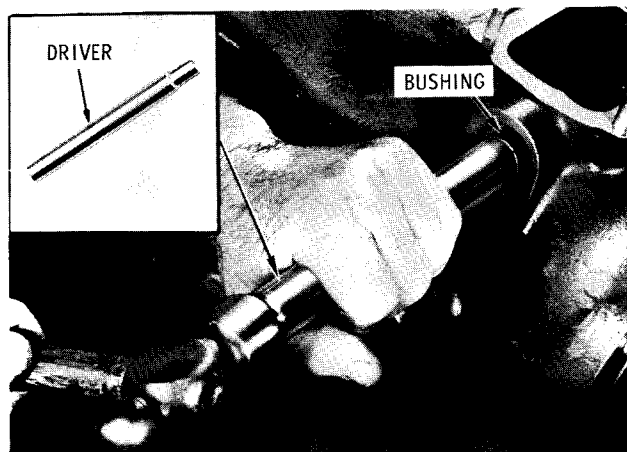

Fig. 6-17. Removing (or installing) shifter fork shaft bushings
(1) Do not remove center bearing retainer 2 (B, foldout 9 for VS2) or 3 (A, foldout 10 for VH, VS1) from the main housing, unless necessary. If necessary, remove eight bolts 5 (B, foldout 9 or A, foldout 10) and lockwashers 4 that retain the retainer in the transmission housing. Using a driver, remove the retainer from the housing. The above instructions also apply to output shaft bearing retainer 27 (A, foldout 11), if the retainer remained in the housing during the removal of the output shaft.
(2) If inspection shows shifter fork shaft bushings 4 (B, foldout 10) and shifter fork shaft oil seal 7 (B, foldout 11) need replacing, use driver 81-0159 (fig. 6-17) to remove the parts.
(3) On older model transmissions, remove any retainer studs 5 (B, foldout 10) and 6 that need replacing. Later model transmissions have self-locking bolts 7 and 17 (B, foldout 9) or 38 and 39 (A, foldout 10) to retain the bearing retainers.
(2) If shifter fork shaft bushings 4 (B, foldout 10) or oil seal 7 (B, foldout 11) were removed, install new bushings or oil seal, using a suitable driver (fig. 6-17).
(3) If center bearing retainer 2 (B, foldout 9) or 3 (A, foldout 10) or output shaft bearing retainer 27 (A, foldout 11) were removed, install as follows: